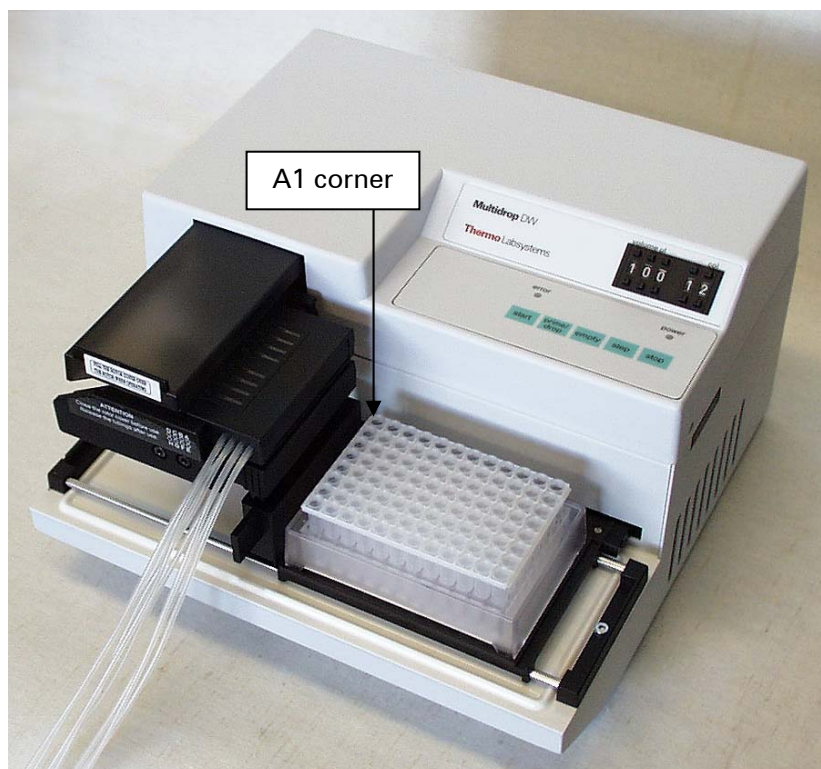

Fig. 6.8 Micronic tube rack placed onto the plate carrier
- B Place the Micronic tube rack straight onto the plate carrier with the A1 corner of the rack located top left of the plate carrier (*Fig. 6.8*).